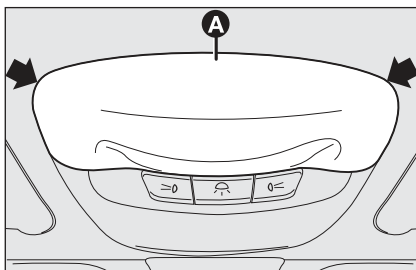

fig. 33
- work in the points shown by the arrows and remove the plastic shape **A**-fig. 33;